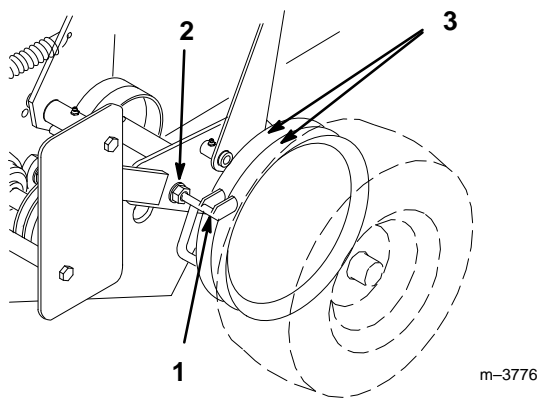

Figure 47
1. Loosen the locknut holding scraper to the engine frame (Fig. 47).
2. Rotate scraper until they align with center of pulley grooves (Fig. 47).
3. Tighten the locknut (Fig. 47).